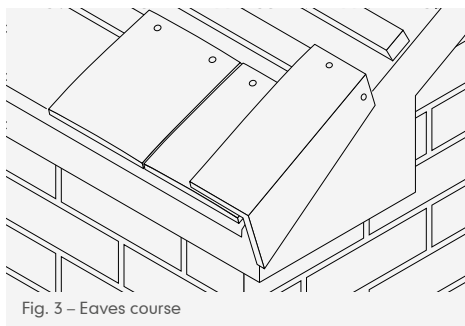

Fig. 3 – Eaves course
- 4 Nail the eaves cloak verge tile with 2 No. 38mm x 3.35mm aluminium or stainless steel ring shank nails to both top and end of the tiling batten using the holes in the top and vertical leg. Alternatively, if the verge construction allows, a timber batten can be secured to the outer edge of the bargeboard or gable wall to assist nailing the vertical leg of the cloak verge tile (Fig. 3).